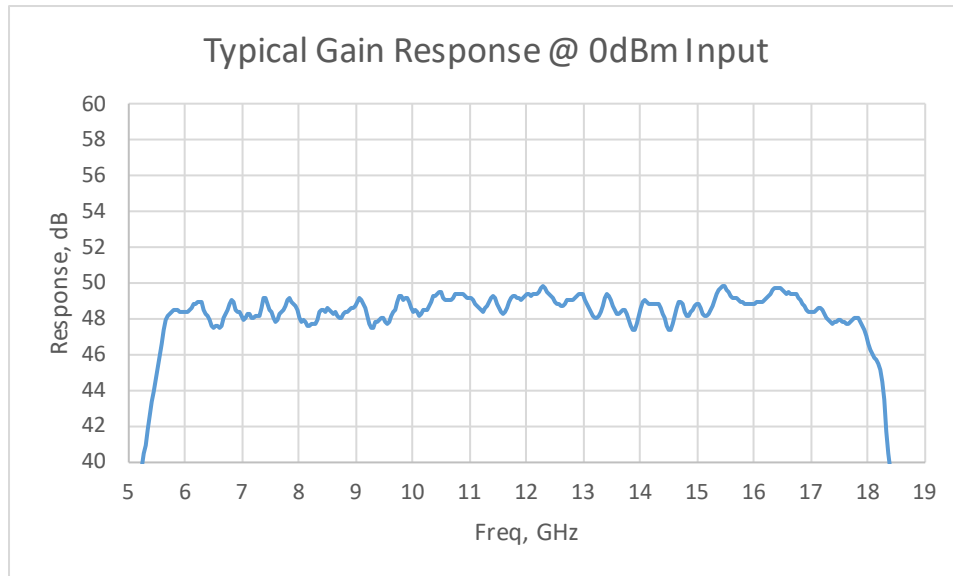
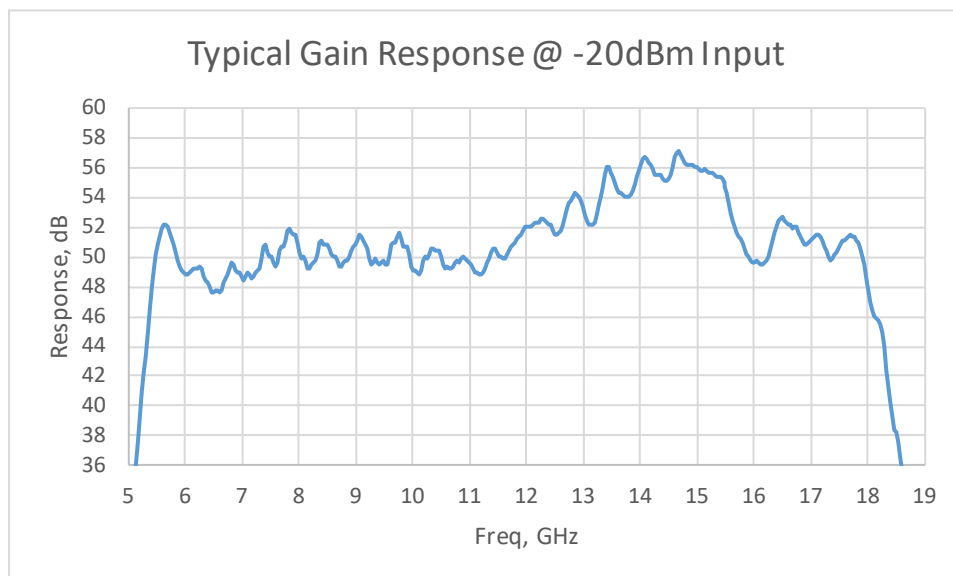

Figure 4-7. High Band Typical Gain Response @ 0dBm Input
Figure 4-8. High Band Typical Gain Response @ -20dBm Input
- The High Band (6.0 to 18.0 GHz) typical gain response at 0dBm input and -20dBm input is shown in Figure 4-7. The actual gain may vary considerably from that shown in Figure 4-7, but should be ≥ 43 dB. Figure 4-8 should be ≥ 47 dB.